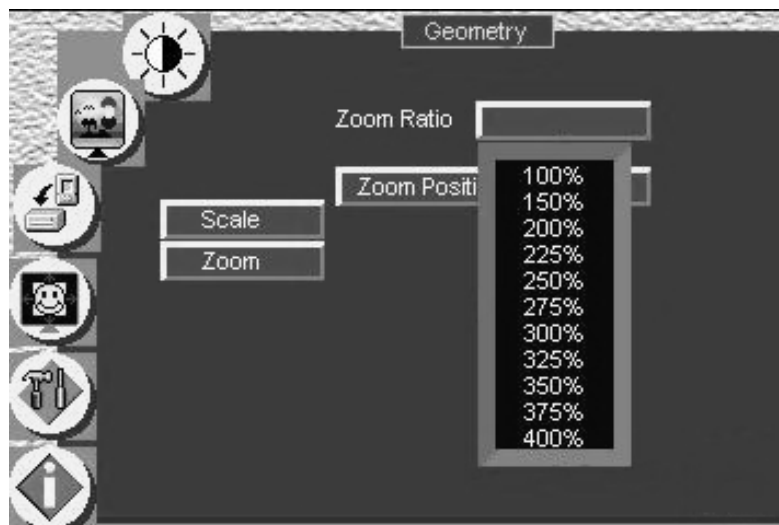

Figure 25: Geometry (Zoom Ratio) Screen
- Using the OSD Menu buttons, as Figure 25 illustrates